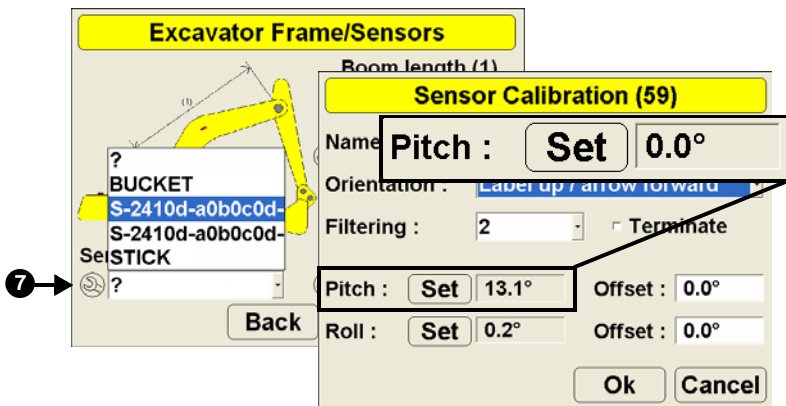

Figure A-12. Set Pitch Value to Zero
6. Tap the Wrench button that corresponds to the secondary boom sensor (Figure A-12).
7. Set the pitch to zero and press Ok (Figure A-12).